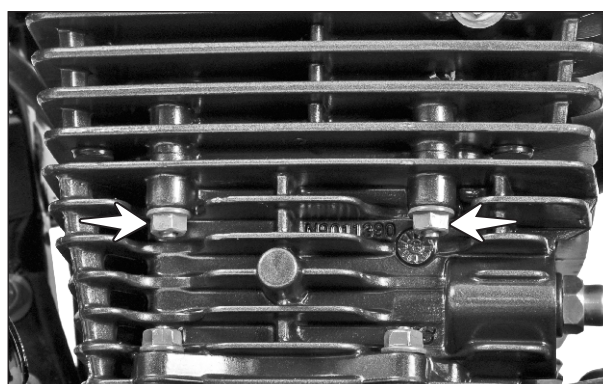

Fig. 3.34
- Remove the hexagonal flange nuts (2 nos.) fastening the cylinder head assembly with the cylinder block. (Fig. 3.34)